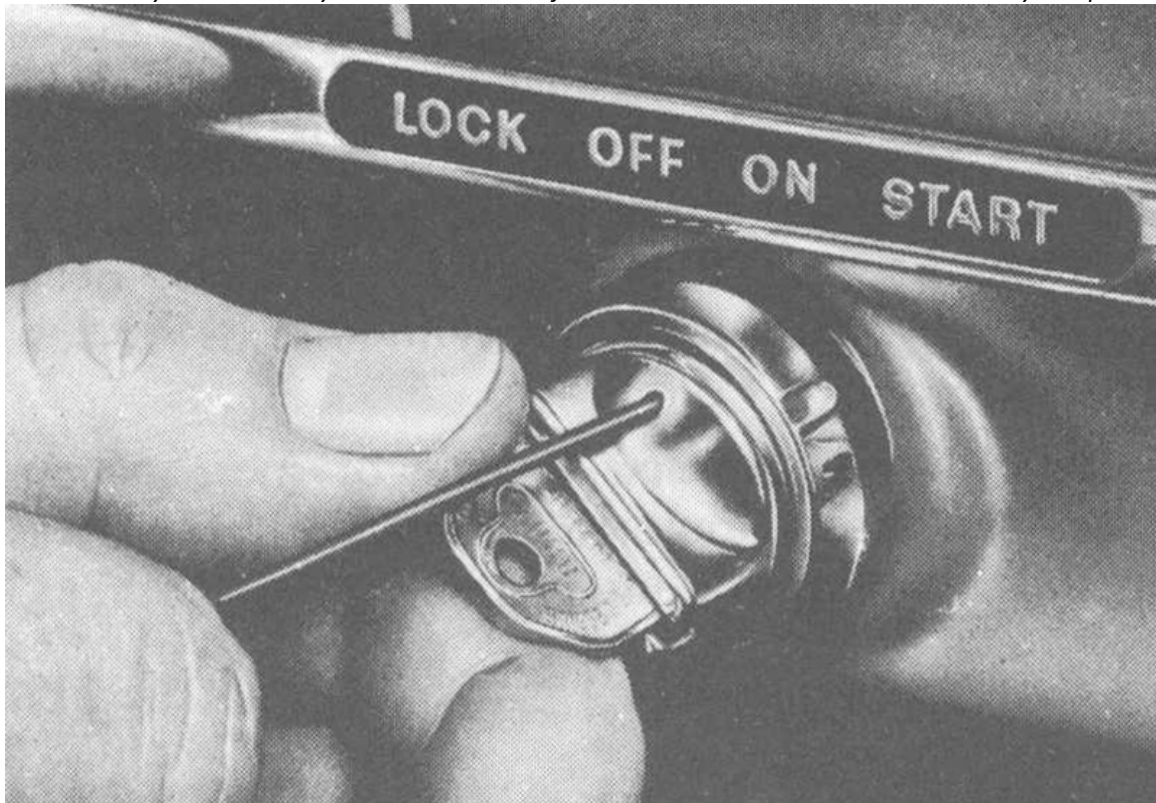

Fig. 1.1
2. Turn the Ignition-starting switch key to the "LOCK" position, then insert a length of suitable gauge wire into the small hole in the cylinder assembly (Fig. 1.1)